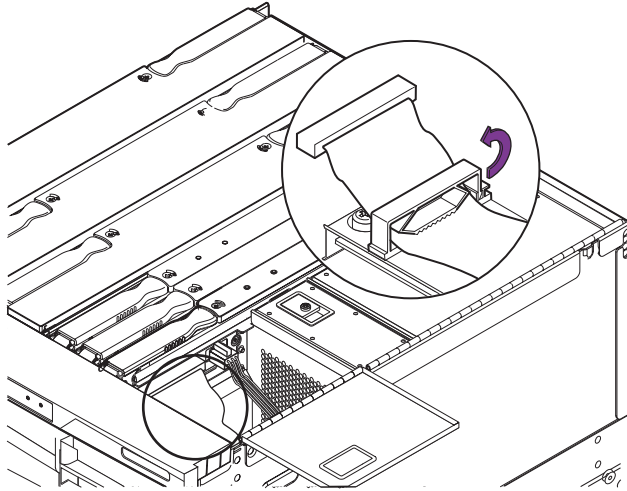
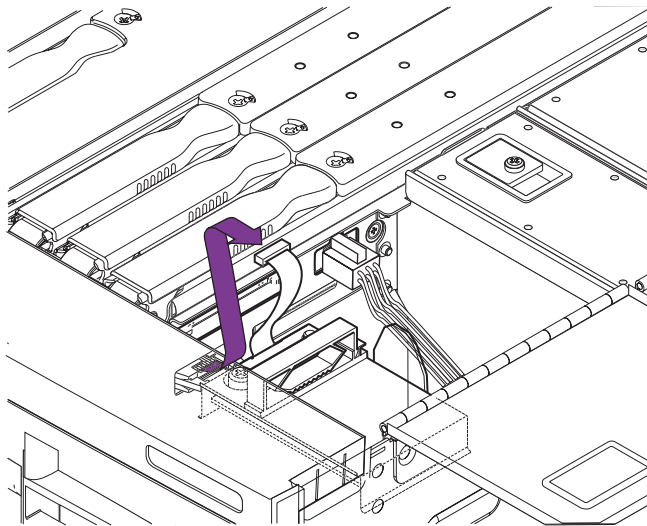

FIGURE 5-21 Disconnecting the IDE Cable
FIGURE 5-22 Disconnecting the SCC Reader Cable
9. Disconnect the IDE ribbon cable and the SCC reader cable (FIGURE 5-21 and FIGURE 5-22).
7. **Connect the SCC reader cable (FIGURE 5-22).**